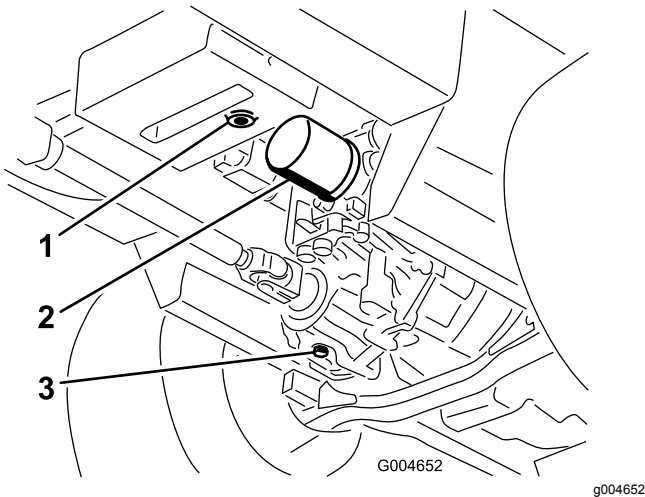

Figure 91
3. Place a large pan under the hydraulic reservoir and transmission case and remove the plugs, draining all of the hydraulic fluid (Figure 91).
4. Clean the area around the hydraulic oil filter and remove it (Figure 91).